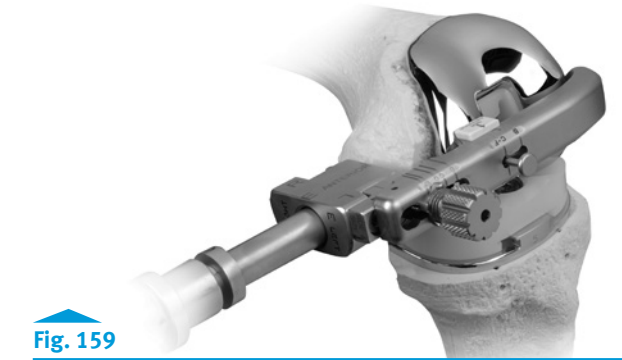
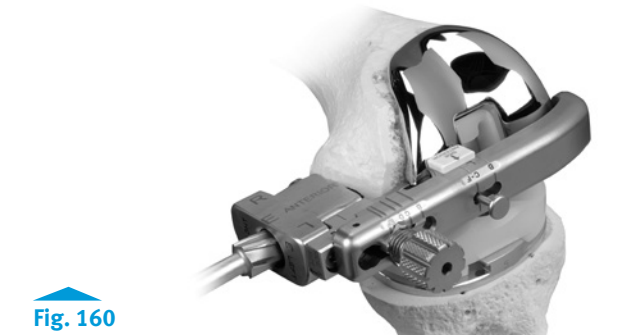

Fig. 159
Fig. 160
- Use the Trepine to drill an access hole into the medial side of the femur (Fig. 159). The Trepine has a built in stop to limit the depth of drilling. Use the Hand Rasp to remove any remaining bone or cement obstructing access to the hinge pin (Fig. 160).